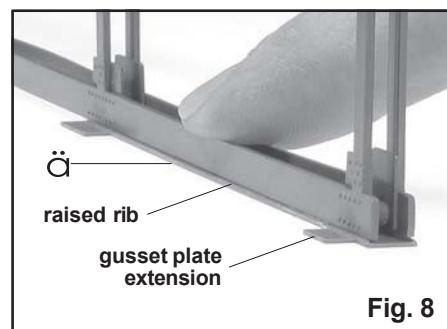

Fig. 8
Note that all bent lattice parts have a raised rib along each edge on one face. To assemble the outside bent lattice, lay part (3) flat on the work surface with the rib side up. Place the bent assembly on edge on top of part (3) so the ribs are on the outside of each bent half. See fig. 8.
Cement in place, one edge at a time, while holding the bent half against the rib. Be sure the end of part (3) is flush with the end of the bent and the notched gusset plate is at the base of the tower. Repeat on the other side of the bent assembly. The six (or four) gusset plate extensions on parts (3) should all extend in the same direction, or up with the bent assembly flat on the work surface. See fig. 8 & 11.